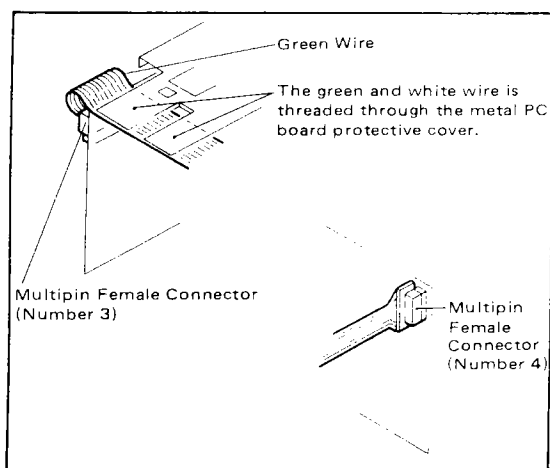

Figure 10-17. Connecting Multipin Female Connectors (3) and (4).
- (12) Connect the two connectors (numbers 3 and 4) in the manner as detailed in Figure 10-17).
- (13) Mount the recorder top cover using one screw (number 1) and store the recorder internal unit in its housing.